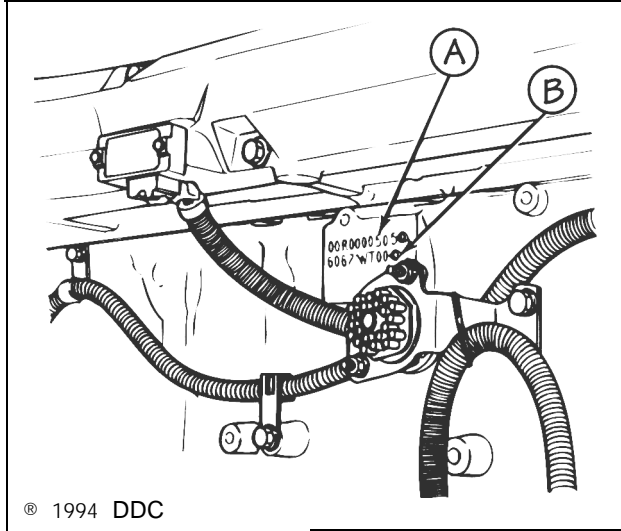

FIG. 2
Engine model identification, serial number (A) and model number (B), is on the name tag located on the side of the valve cover and stamped on the cylinder block beneath the intake manifold (see Fig. 2).